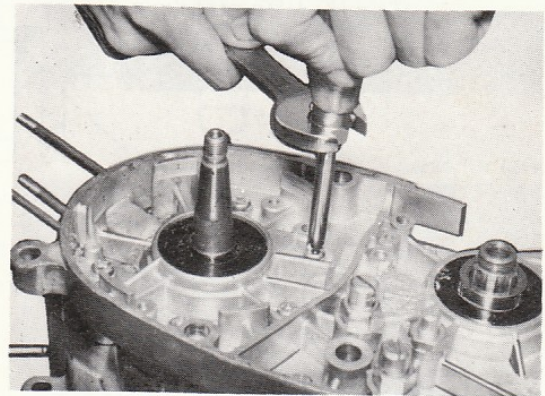

Fig. 3-54
- a. Remove the pan-head screws from the left crankcase. (Fig. 3-54)